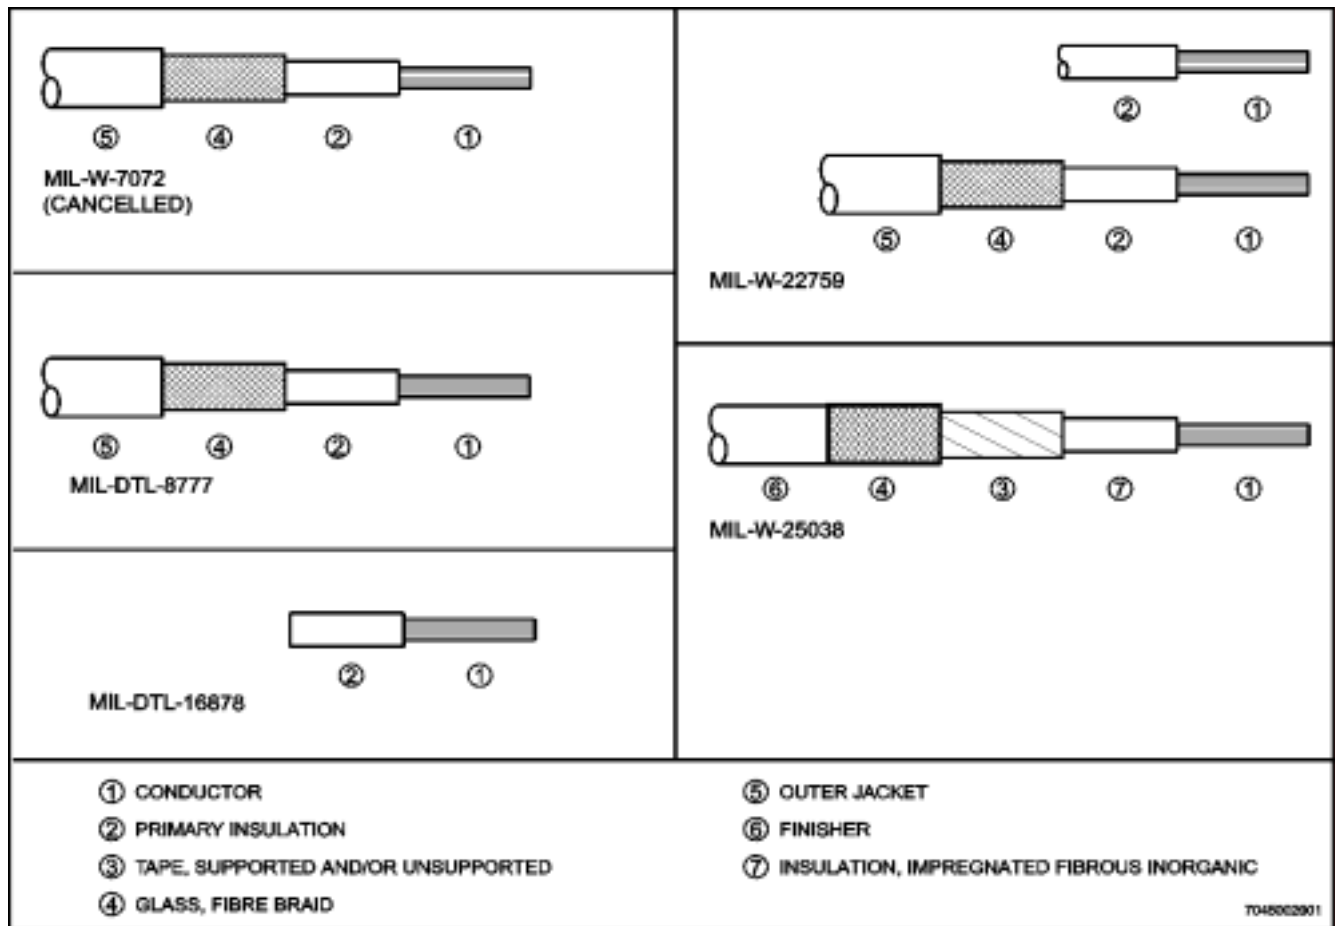

Figure 1-1 Wires Commonly Used In Aircraft
4. For the purposes of electric and electronic installation in aircraft, an insulated wire consists of a metal conductor covered with a dielectric or insulating material (refer to Figure 1-1). Insulated wire is usually referred to as “wire” and will be so designated in this manual. Wires used in aircraft contain stranded conductors for flexibility. Insulations may consist of several materials and layers to provide dielectric insulation, thermal protection, abrasion resistance, moisture resistance, and fluid resistance. Wires commonly used in aircraft are described in Table 1-1. Insulations commonly used in aircraft are described in Table 1-2.